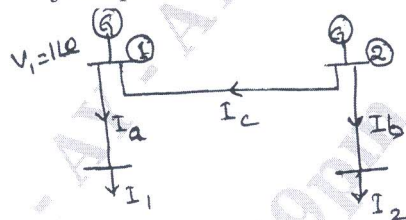

Fig Q6(b)
- b. Compute the loss coefficient for the network shown in Fig Q6(b) using given data :